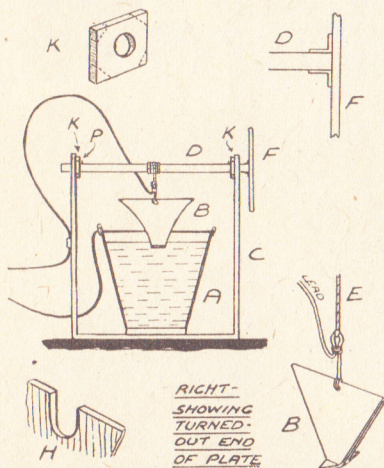

Fig. 1—Section and detail of parts
Fig. 1 shows the arrangement of a dimmer and the parts required for use with current up to 5 amps. The part (A) is an ordinary household metal bucket and (B) a triangle of thick tin made up of a diamond shape bent over about its shorter diagonal.